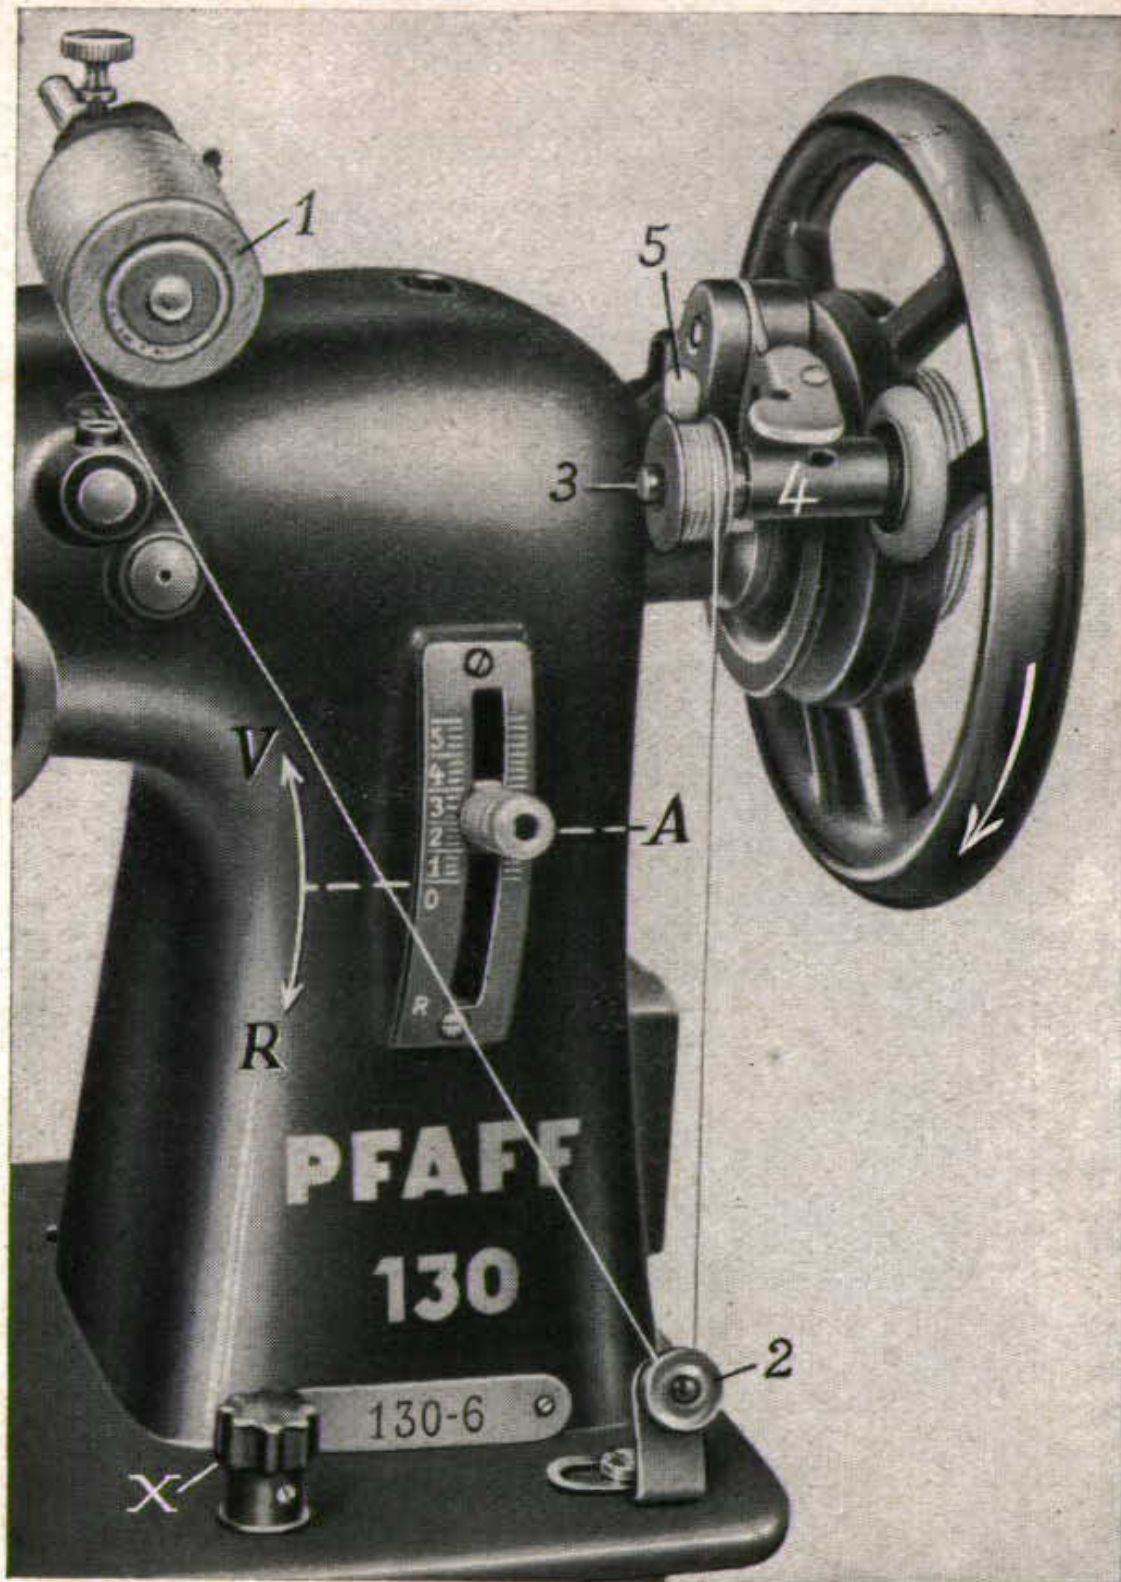

Fig. 6
4. To wind the bobbin (Fig. 6)
The length of the stitches is regulated by the stitch regulator screw. (Fig. 6). In the zero—(or neutral)—position, there is no feeding at all. The numbers above zero are for forward stitching; the space below for reverse stitching.
For darning and embroidering, the feed can be lowered by turning the knob (X), (Fig. 6), on the front right-hand side of the bed plate. Turn it right to lower the feed; turn it left to raise the feed.